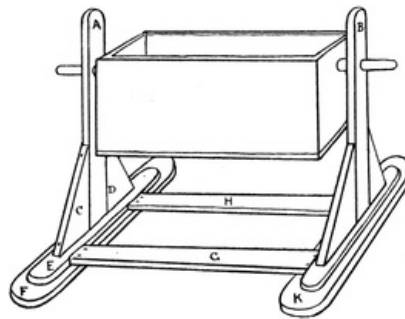

FIG. 288
**A Swinging Cradle** (Fig. 288). The *cradle* is a wooden box, 5 inches by  $2\frac{3}{4}$  inches, and 2 inches deep. Before nailing this together, holes must be drilled in the two short sides, large enough to take a wooden axle about  $\frac{1}{4}$  inch in diameter.